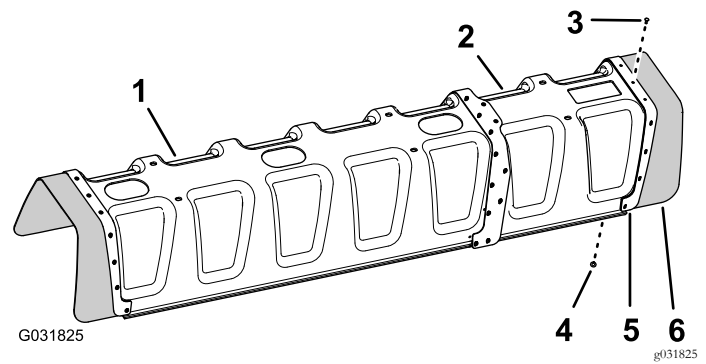

Figure 149
5. Align the holes in the rubber cover and the reinforcement plate (single row) that you removed in step 2 with the holes in the end of the over extension (Figure 149).